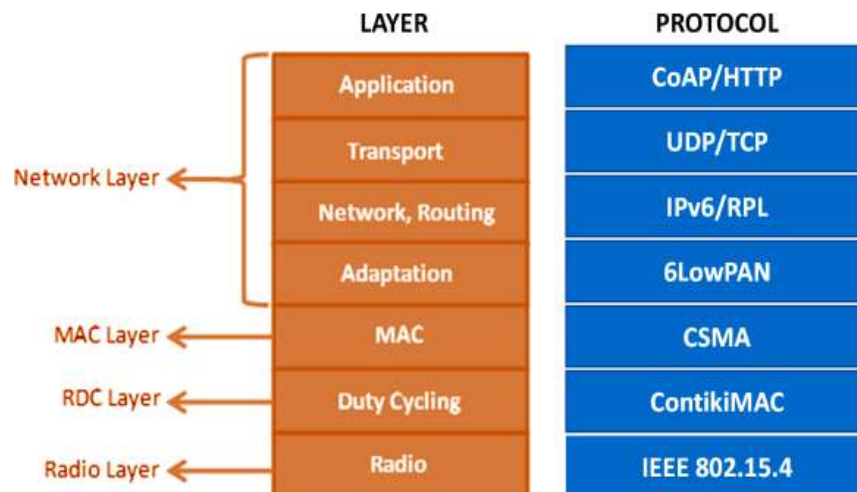

Figure 5.5 Contiki Network Stack
- Contiki can provide communication over IPv4, IPv6 and Rime Network Stack. Contiki Network Stack shown in Figure 5.5 gives more details for its structure.